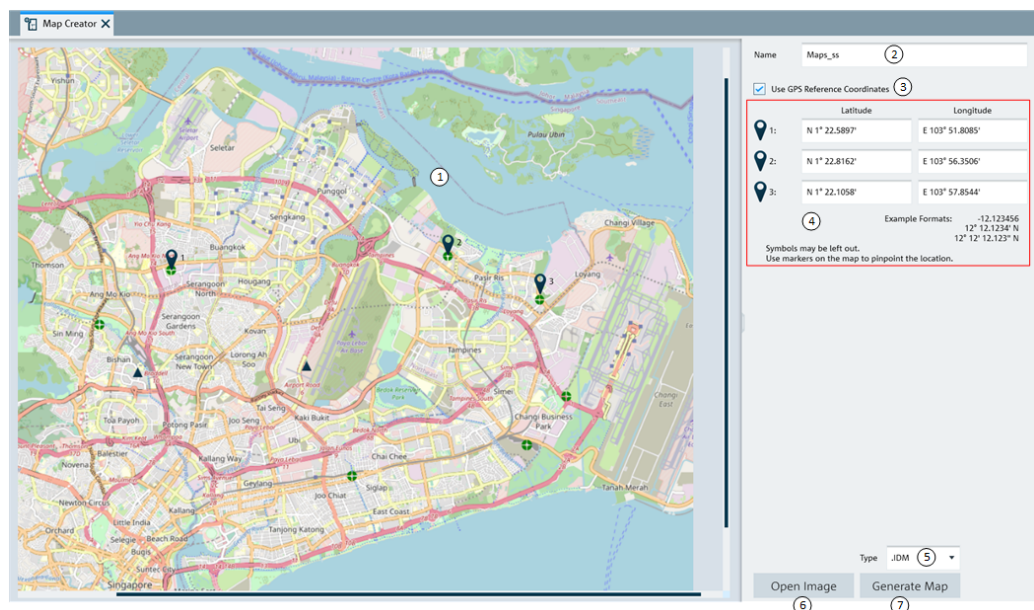

Figure 5-45: Map creator dialog box
the entry field (see item 4 of Figure 5-45) . With a GPS referenced map, it provides the following useful features: